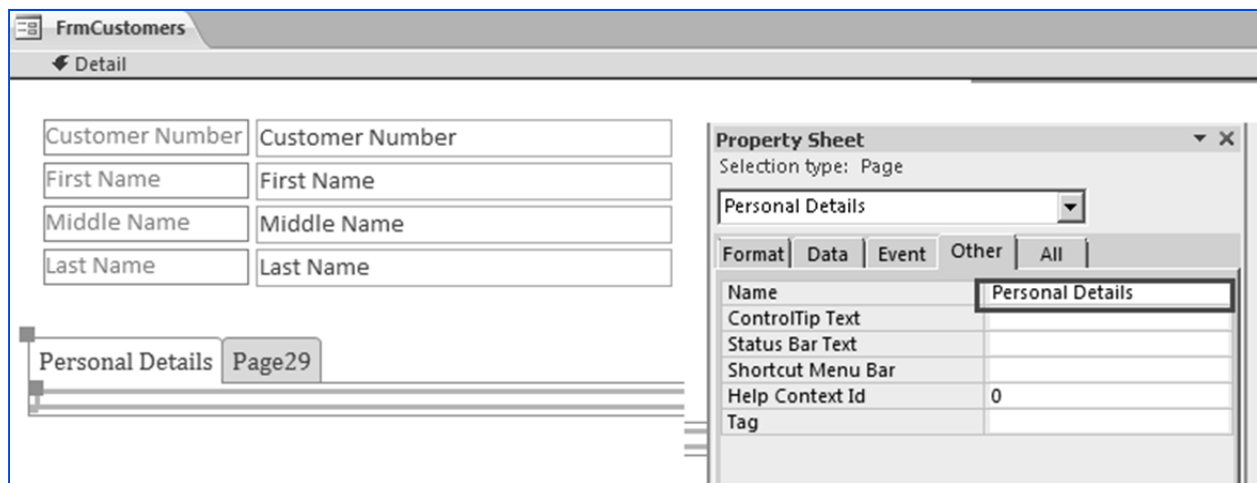

Fig. 2.3.11. Change the name of first tab
5. Double-click the tab *Page28*. Property sheet appears. Type the value *Personal Details* in *Name* property, as shown in Fig. 2.3.11.